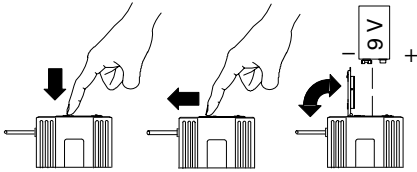

FIGURE 4. BATTERY INSTALLATION
2. **AXB1, AXB1G:** Press down on the OPEN side of the battery compartment cover, slide it back and flip it open, as shown in Figure 4.